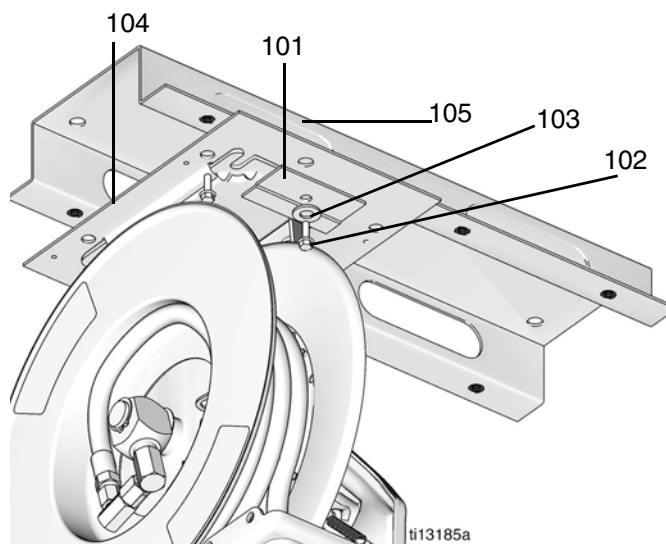

FIG. 10
1. Install the mounting channel (105) and base plate (104), as shown in FIG. 10.
2. Slide the hose reel into the base plate (104) and install the hold down plate (101), washer (103), and the cap screw (102). Tighten the screw firmly (FIG. 10).
3. HP Model Reels only: See FIG. 10, page 13. Slide the hose reel onto the base plate (104) then install the hold down plate (101), washer (103), and cap screw (102). Tighten the screw firmly.